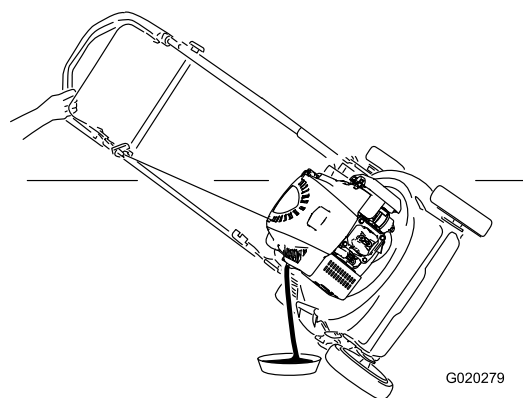

Figure 29
5. Tip the machine onto its side, with the dipstick down, to drain the used oil out through the oil fill tube (Figure 29).